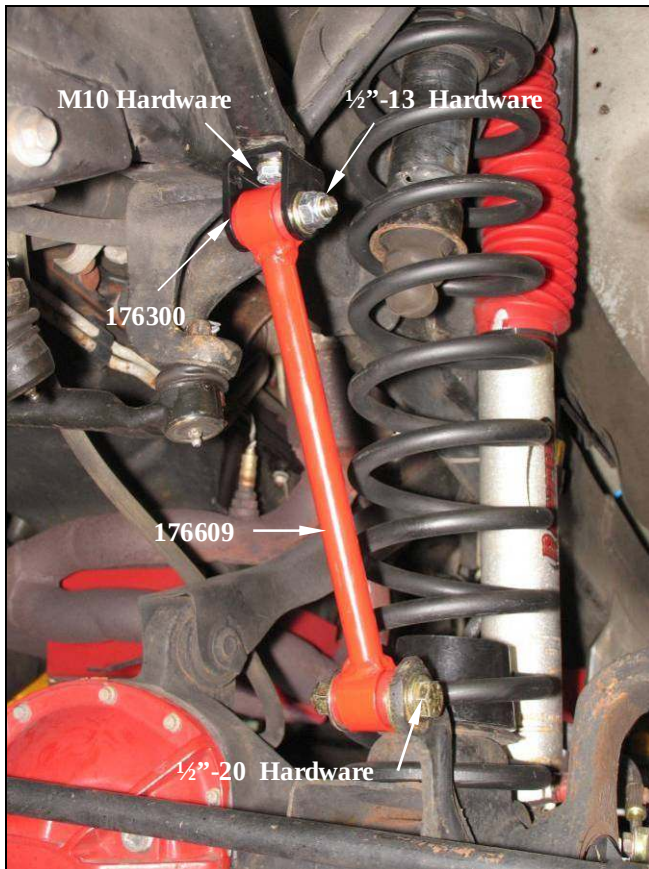

Figure 11
- 4) ☐ Connect the lower mount of end link 176300 using the 1/2"-20 x 2.75" bolt, 2 USS 1/2" washers and 1 SAE 1/2" washer. The 2 USS washers should go on either side of the end link bushing to retain it properly. See Figure 11 for details. Do not torque yet.
- 5) ☐ Attach clevis bracket 176300 to the bottom side of the sway bar at the end link mounting hole. Installing the bolt from the bottom side, use the M10-1.25x35mm bolt, 2 M10 washers and 1 M10 top-lock nut from hardware kit 860684. Torque to 32 ft-lbs. See Figure 11 for details.